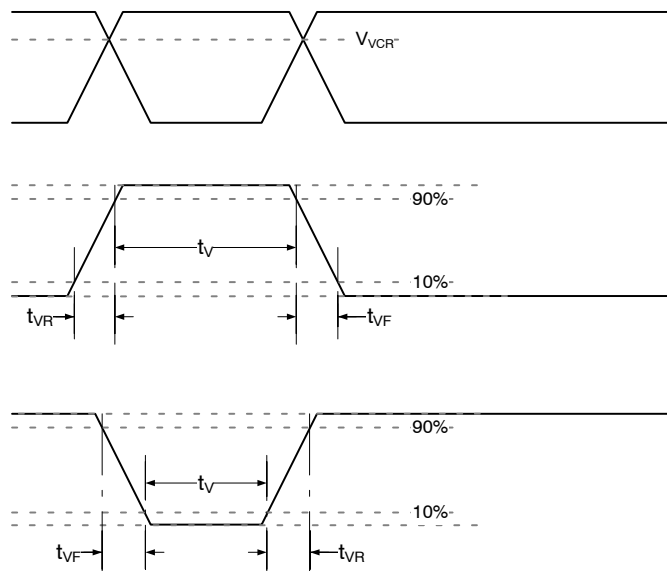

Figure 25. VCCD Clock Edge Alignment
2. Refer to Figure 25: VCCD Clock Edge Alignment